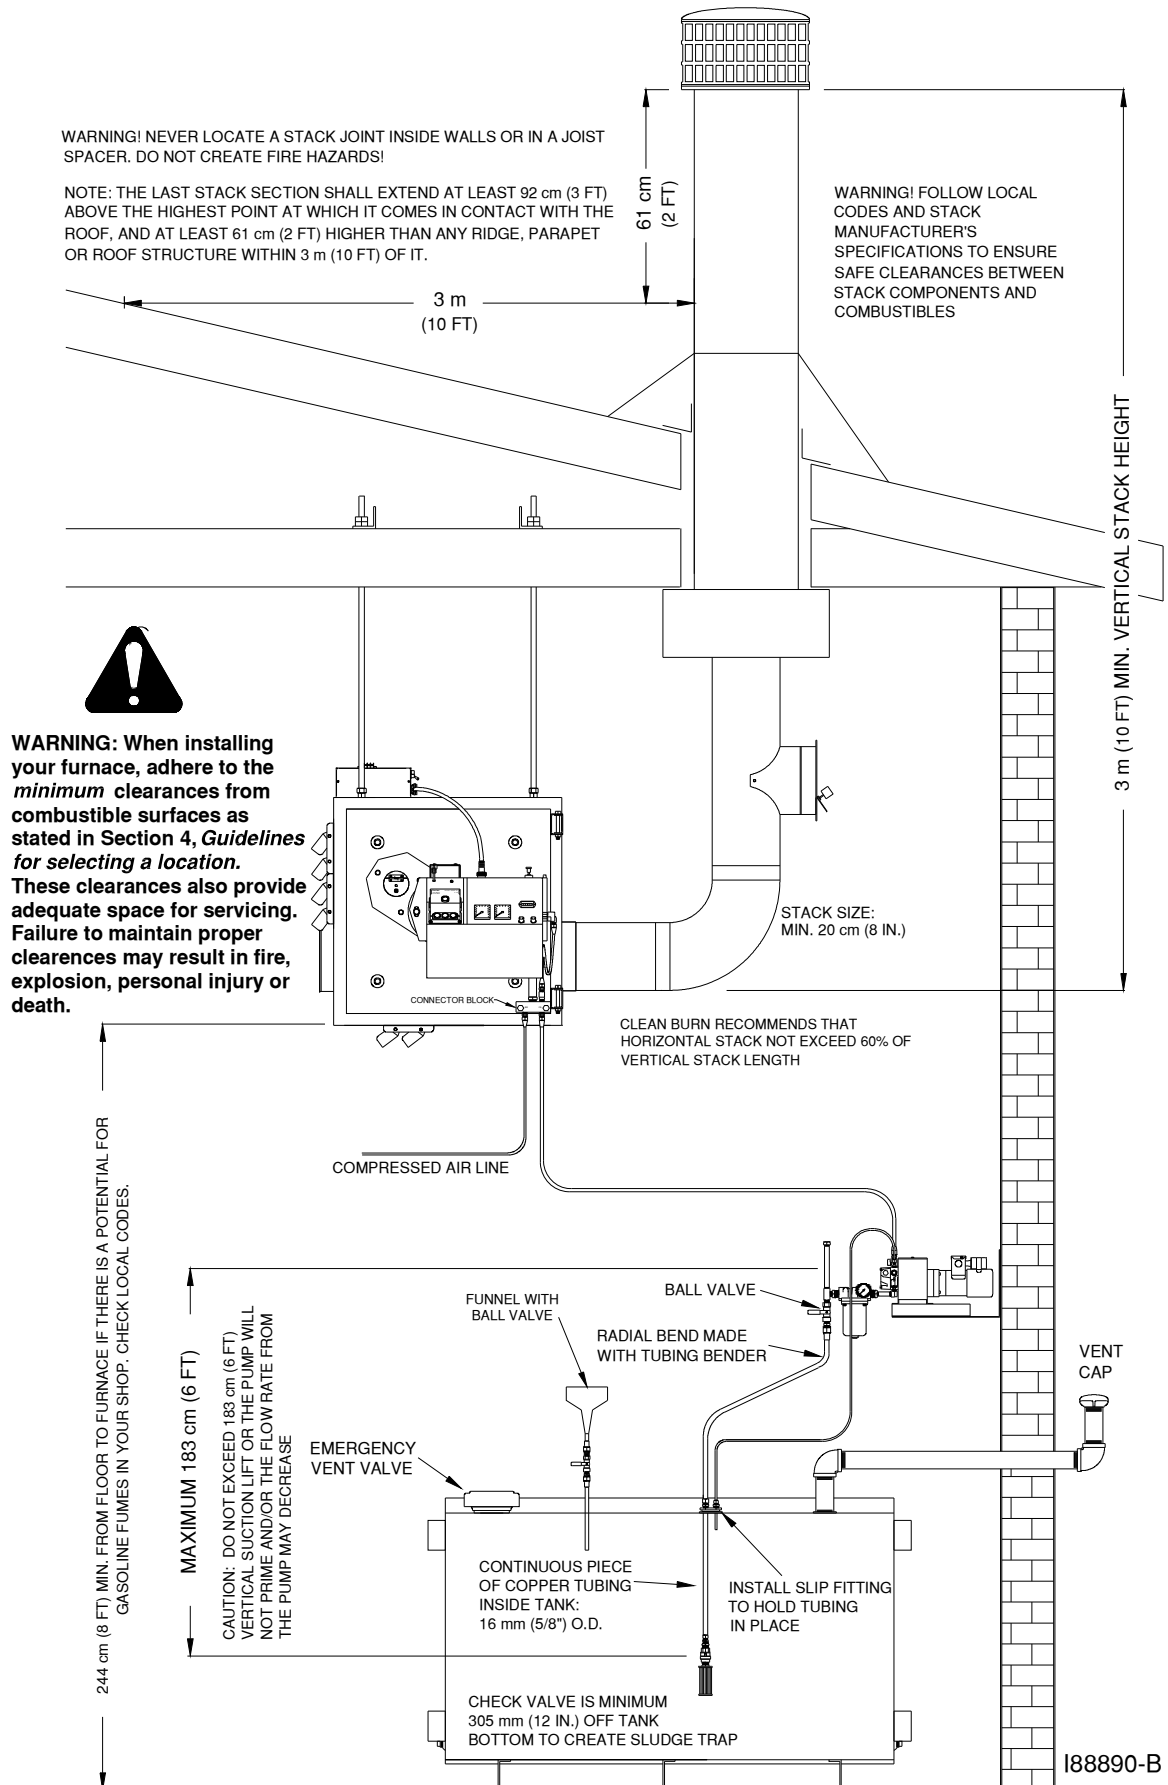

Figure 4A - Typical CB-2500 Furnace Installation (CB-1500 is similar)
Clean Burn recommends that you review all procedures before beginning installation, paying careful attention to safety information statements. **Figures 4A and 4B** provide a general overview of a typical furnace installation and should be reviewed closely before proceeding.
1. Refer to Figures 4A and 4B.
- For optimal system functioning, Clean Burn Recommends inside tank installations as shown in Figures 4A, 4B, and 4J.
- Carefully review the oil tank and pump installation details as shown in Figures 4A, 4B, 4F, and 4J including the metering pump installation and specifications for the oil line installation. (Procedures for installing these components can be found in the following pages.)